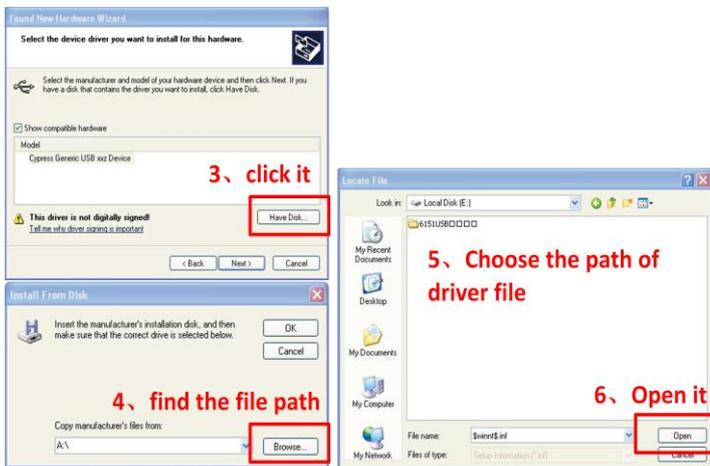

Figure 2.4 Install Driver from the Disk
2. Select the option of " do not search " in the dialog box as shown in Figure 2.3, and click next to enter the dialog box of Figure 2.4.
3. As shown in Figure 2.4, pay attention to the yellow arrows pointing in the Figure. Following the above step of the operation, click the left mouse button to select "install from the disk (H)..." in the dialog box of "found new hardware wizard 2", and the dialog box of "install from the disk" pops up;
4. As shown in Figure 2.4,click the left mouse button to select "browse (B)...", and then the dialog box of "found file" pops up;
5. As shown in Figure 2.4, select "my computer" in the selection bar of " search scope ", and then choose the disk to save the driver installation files;
6. As shown in Figure 2.4, click the left mouse button to select the "open" button;